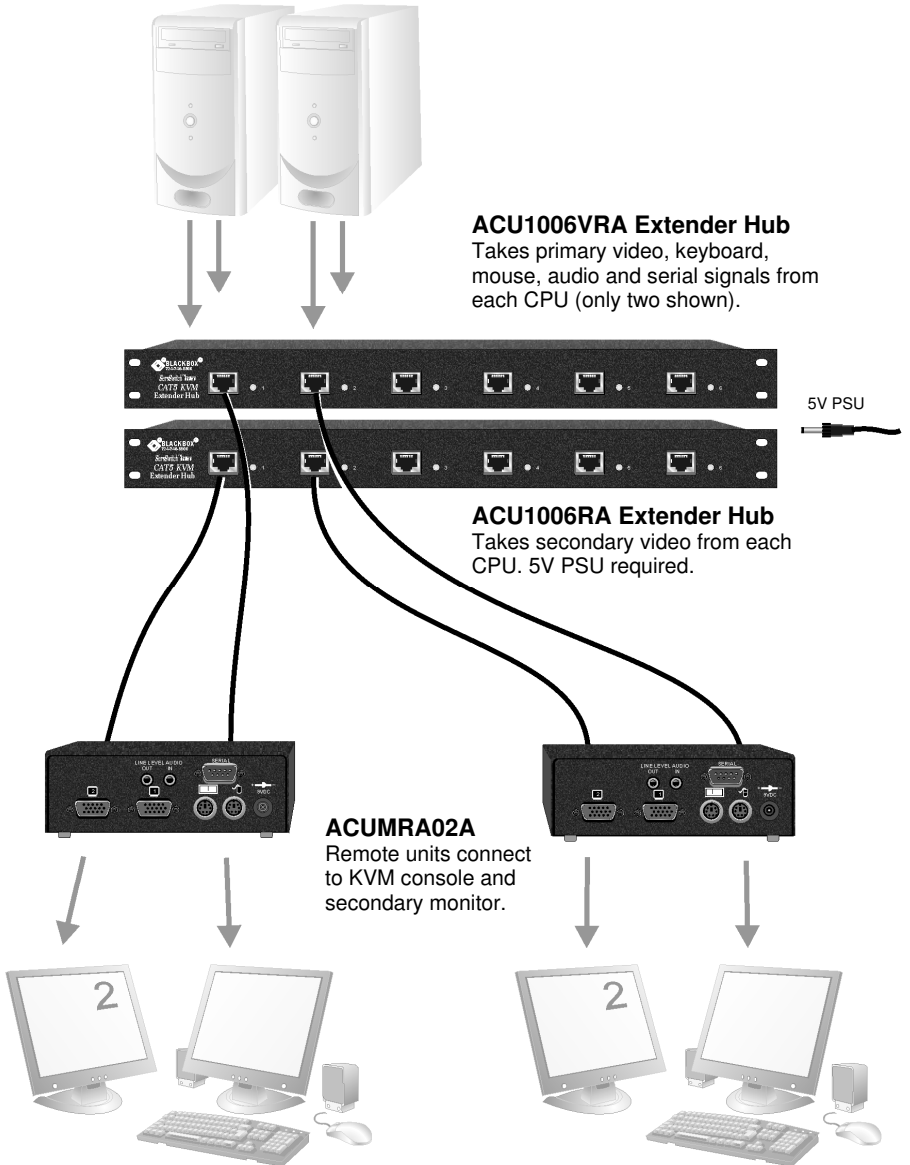

Figure 7 Dual-monitor consoles with serial and audio extension
- Six dual-monitor consoles with serial and audio extension (Figure 7). Requires six ACUMRA02A Remote units and ACU1006VRA and ACU1006RA Local Hubs.